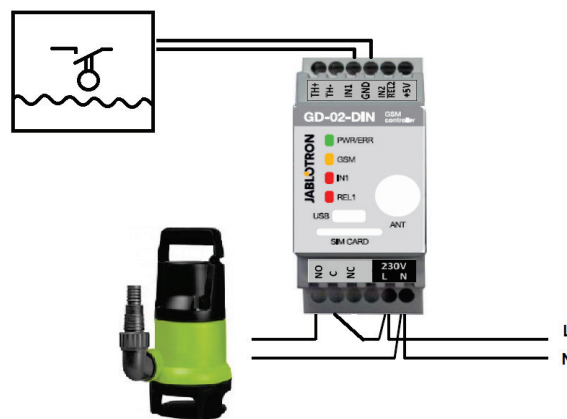

Figure 3: Monitoring of the maximum water level in a tank with automatic water draining using a water pump.
- This diagram shows the connection of the level sensor to the IN1 and GND inputs. REL1's power output switches 230 V to power the water pump, see Figure 3.